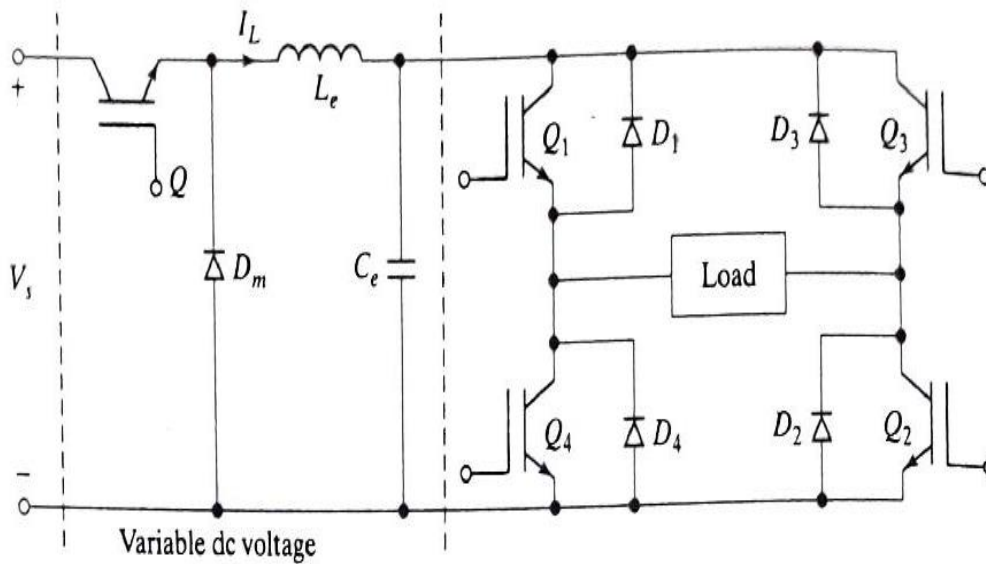

FIGURE 6.38
- Such an arrangement as shown in Figure 6.38 is known as a **variable dc-link inverter**.